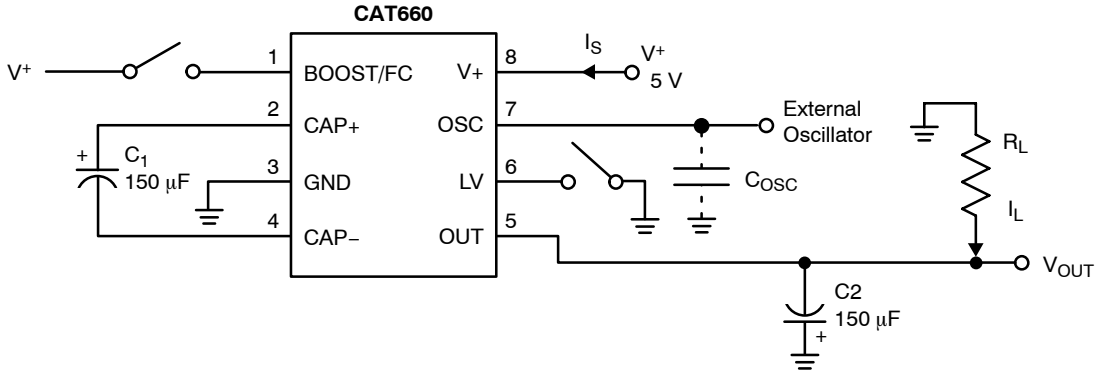

Figure 3. Test Circuit
**Table 3. ELECTRICAL CHARACTERISTICS** (V+ = 5 V, C1 = C2 = 150 μF, Boost/FC = Open, COSC = 0 pF, inverter mode with test circuit as shown in Figure 3 unless otherwise noted. Temperature is over operating ambient temperature range unless otherwise noted.)
4. In Figure 3, test circuit capacitors C1 and C2 are 150 μF and have 0.2 Ω maximum ESR. Higher ESR levels may reduce efficiency and output voltage.
(Typical characteristic curves are generated using the test circuit in Figure 3. Inverter test conditions are:  $V_+ = 5\text{ V}$ ,  $LV = \text{GND}$ ,  $\text{BOOST/FC} = \text{Open}$  and  $T_A = 25^\circ\text{C}$  unless otherwise indicated. Note that the charge-pump frequency is one-half the oscillator frequency.)